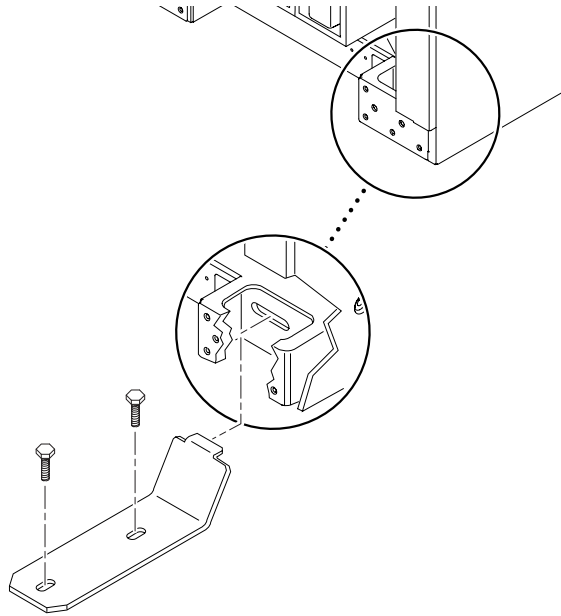

FIGURE 3-6 Bracketing the Sun Fire Cabinet to the floor
11. Secure the cabinet to the operating location using the front and rear brackets saved in Step 2 and Step 6 (FIGURE 3-6).